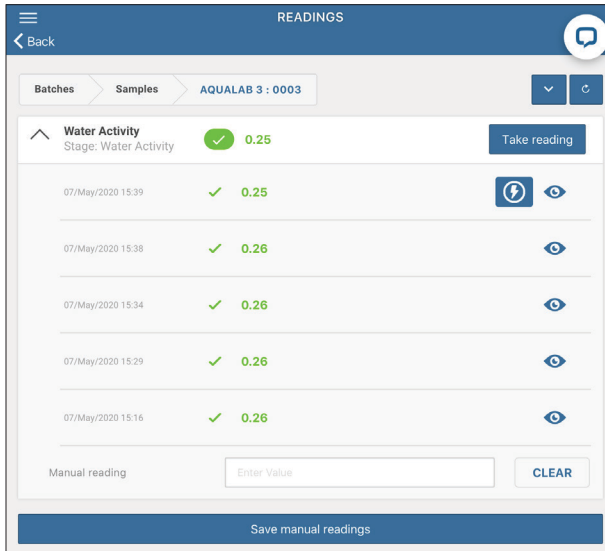

Figure 49 Take reading on Readings window
6. Select the **Take reading** button to start the reading process (Figure 49).